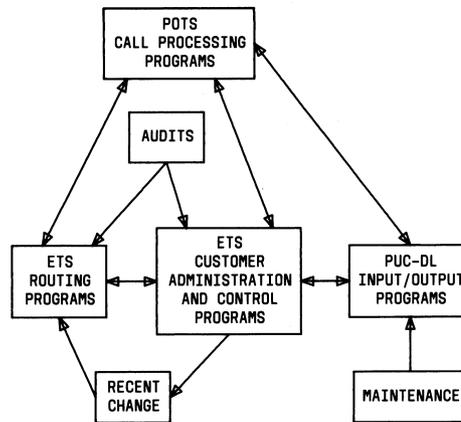
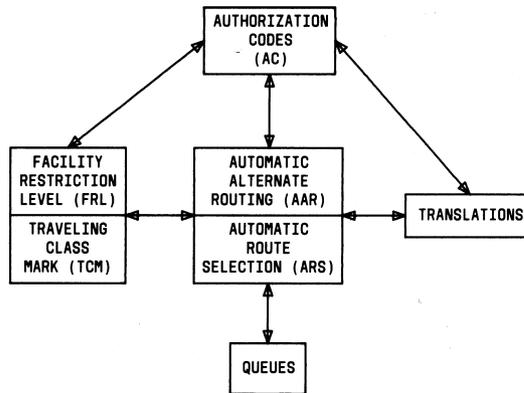

Fig. 1—ETS Feature Interfaces
Fig. 2—Dependencies of ETS Routing Function
**2.02** Within each of the three main functions listed above there are several subfeatures. The general relationship of the ETS features to the other call processing functions is shown in Fig. 1. Subfeature interfaces are shown in Fig. 2 and 3.